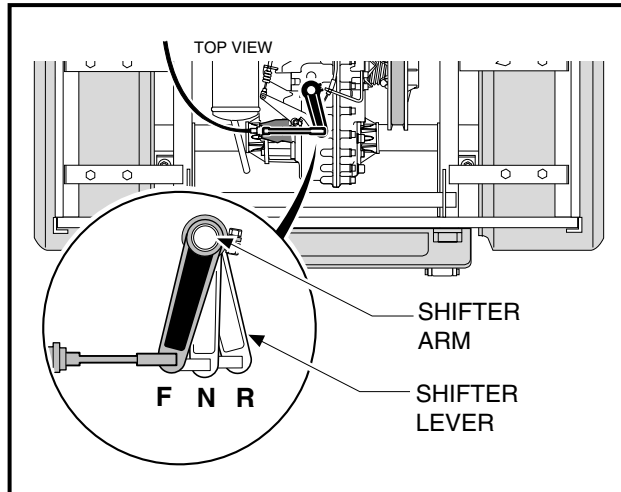

Figure 16-2 Shifter Positions
A shifter lever, connected to a shifter arm, is used to change the gears to one of three shift positions: FORWARD (F), NEUTRAL (N), or REVERSE (R) (**Figure 16-2, Page 16-2**). Bring the vehicle to a complete stop before changing FORWARD or REVERSE direction.